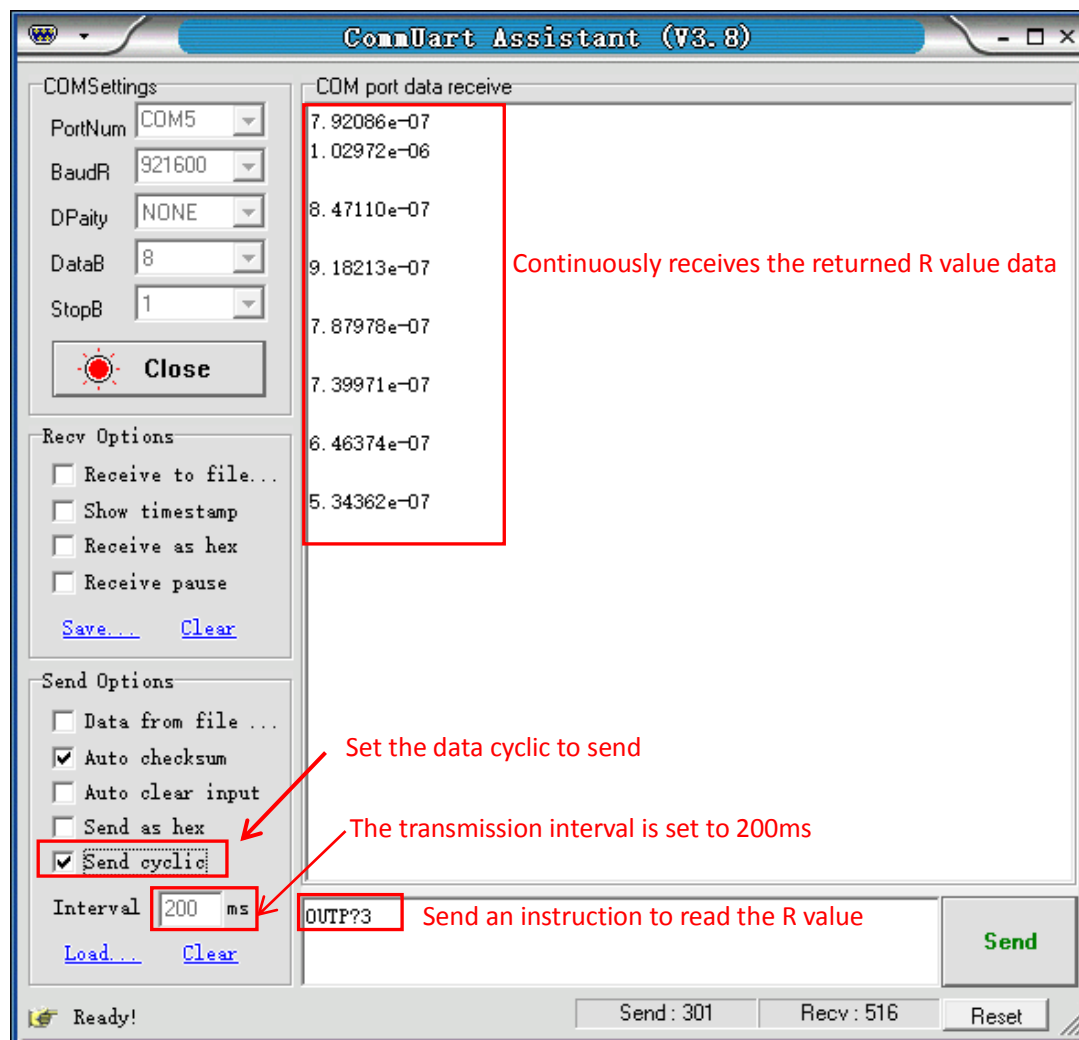

Fig.79 Read the single R value continuously
4) If you want to read $\langle X \rangle$, $\langle Y \rangle$, $\langle R \rangle$, $\langle \theta \rangle$ and Freq continuously, you can set the transfer pause time as Fig.79.